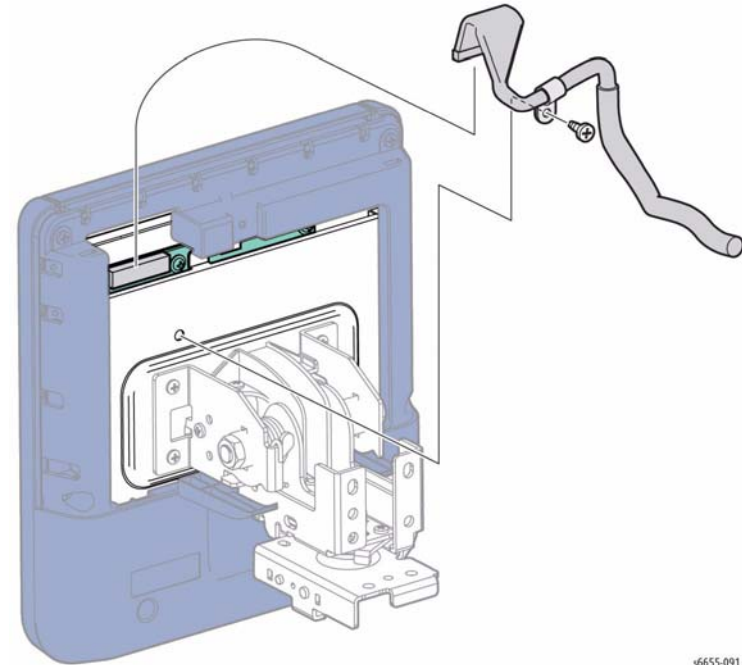

Figure 2 Remove the Control Panel UI Cable
11. Refer to Figure 2 to disconnect the cable from the Control Panel, then locate and remove one screw and one tie that secure the cable to the UI Hinge. While adjusting the Control Panel position as needed, remove the cable from the UI Hinge Assembly.